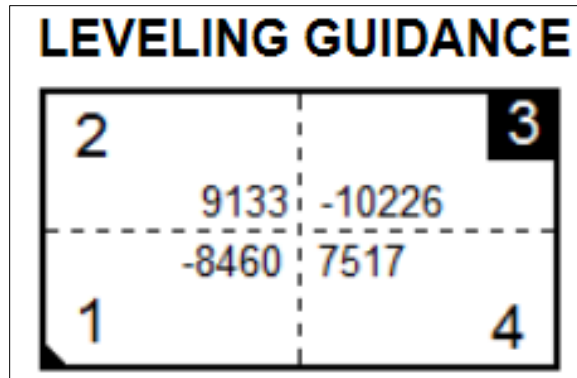

Figure 3-19: Installation Guidance Graphic Display
- Note: If factory values are recalled, the graphic will display a value representing the difference between the current value and the recalled value, as in Figure 3-19. If factory values are not present, or not recalled, the graphic will display the absolute value of current counts.